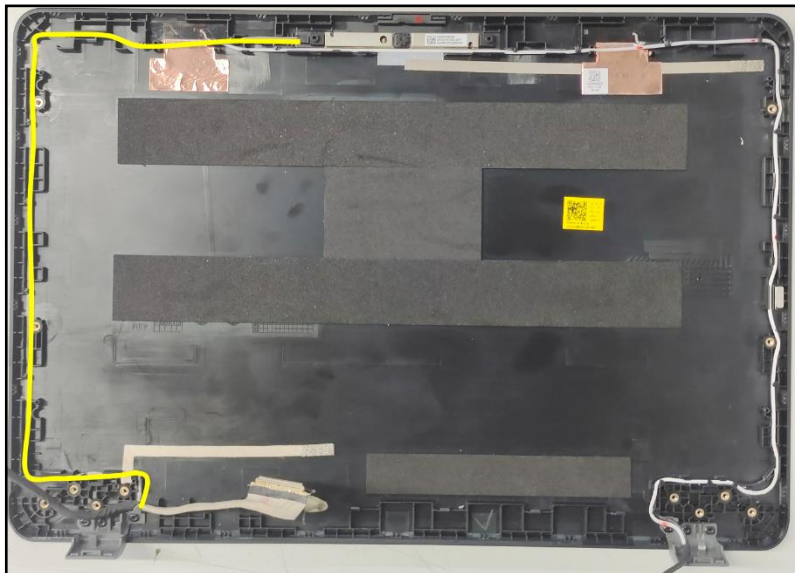

Figure 3-72. Replacing the EDP Cable
2. Continue to route another portion of the eDP cable through the cable guides as shown in Figure 3-72.